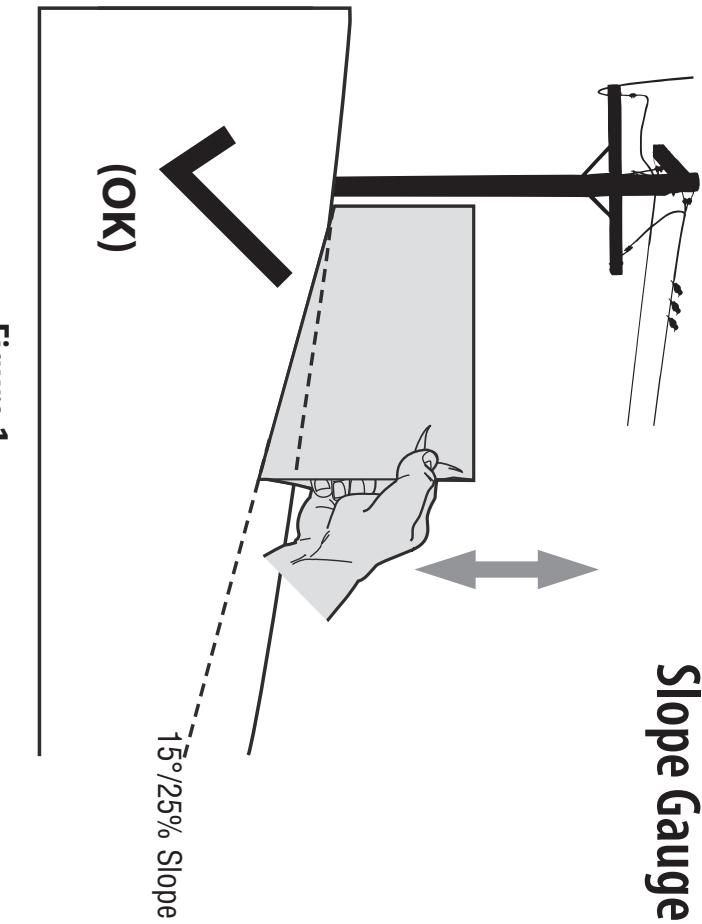
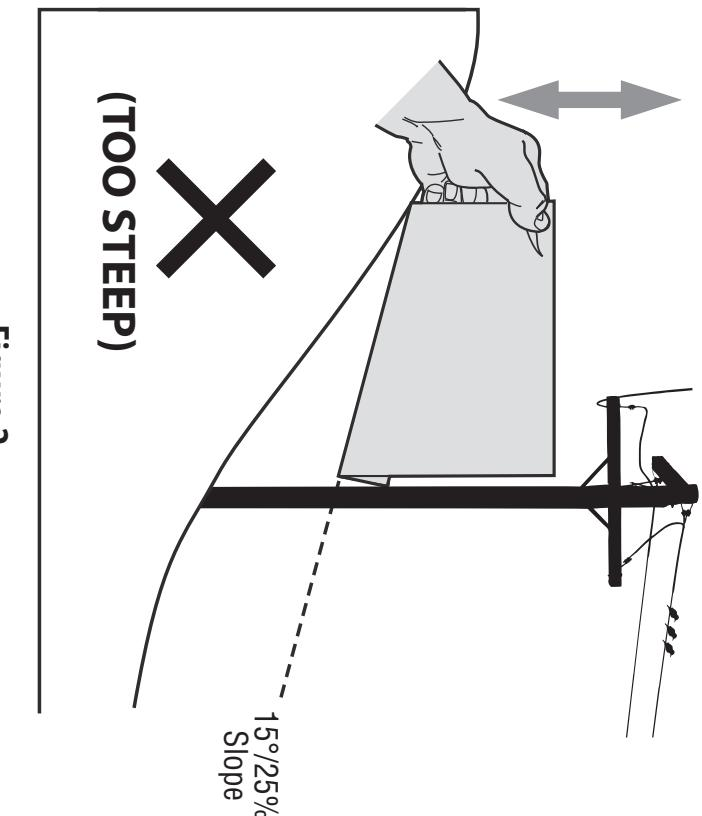

Figure 1
Figure 2
3. Align either side of the slope gauge with the object (See Figure 1 and Figure 2).
4. Adjust gauge up or down until the left corner touches the slope (See Figure 1 and Figure 2 above).
5. If there is a gap below the gauge, the slope is too steep for safe operation (See Figure 2 above).